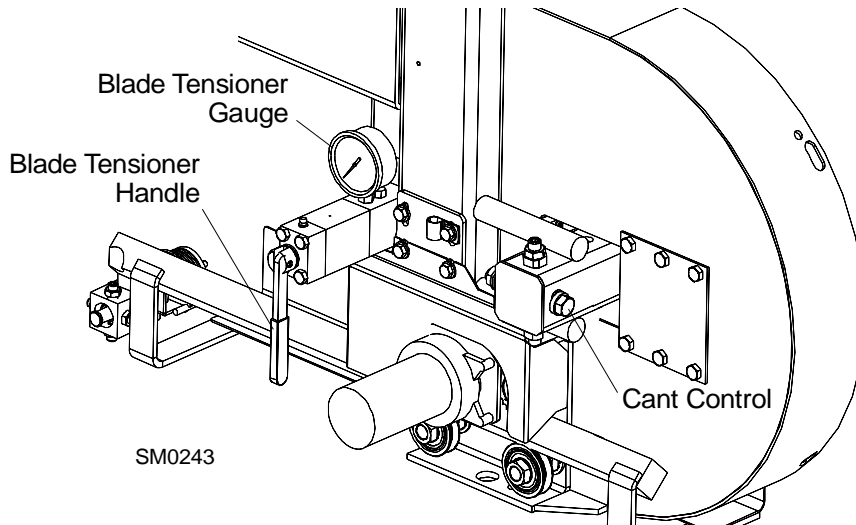

FIG. 3-5
See Figure 3-5. The figure below shows setup of the sawmill, the control box and the cable guide columns.
See Figure 3-5. Tension the blade by turning the hydraulic tensioning handle clockwise until the tension gauge indicates the recommended tension.
4. To adjust where the blade travels on the blade wheels, use the cant control shown in **Figure 3-5**.